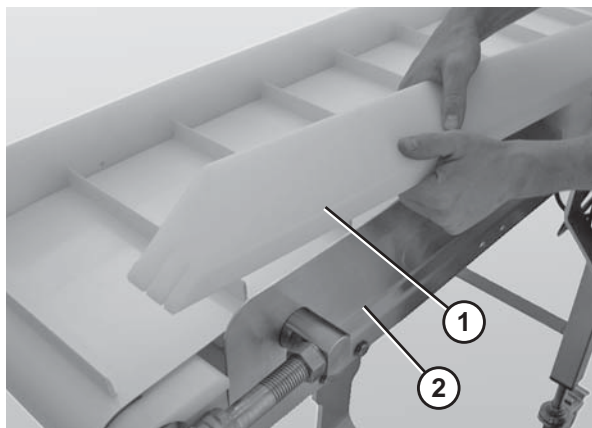

Figure 47
2. Remove the guide (Figure 47, item 1) from the conveyor (Figure 47, item 2).